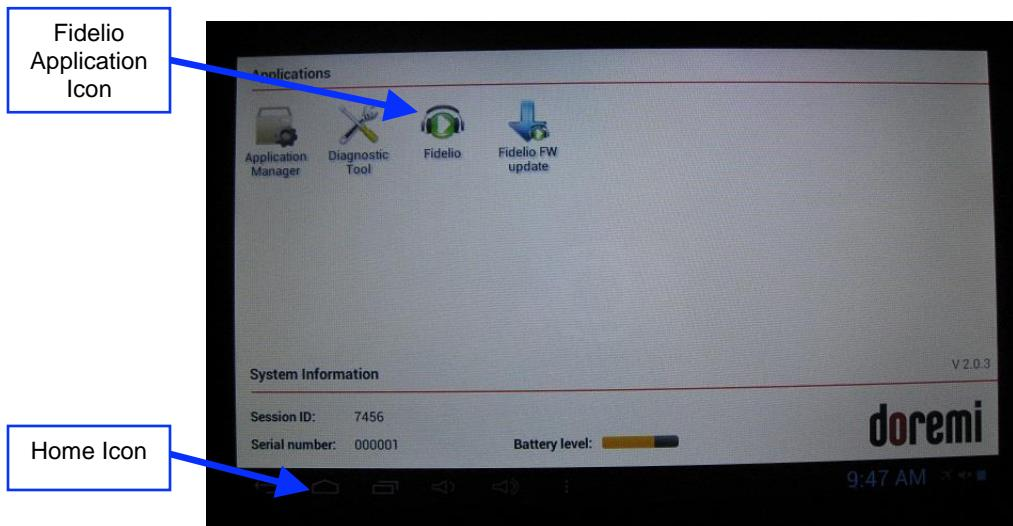

Figure 24: Fidelio Application Icon
- Once you have assigned the correct auditorium number, press the Home button (Refer to Figure 8 for v1.1.2; Refer to Figure 24 for v2.2.0) on the tablet and disconnect the USB cable connected to the transmitter.
- Using your finger, touch the Fidelio application icon to launch the application (Figure 24).